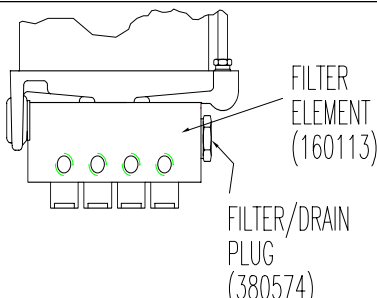

Figure 10. Charging Valve on R-13 Reservoir
The charging valve is located on the bottom of the reservoir. The plug located on the charging valve holds the fluid filter in place. This plug and filter can be removed to drain the reservoir's fluid. See Figure 10.
2. Very slowly open the bleeder plug using a 3/16" allen wrench. See **Figure 10** for location of bleeder screw.